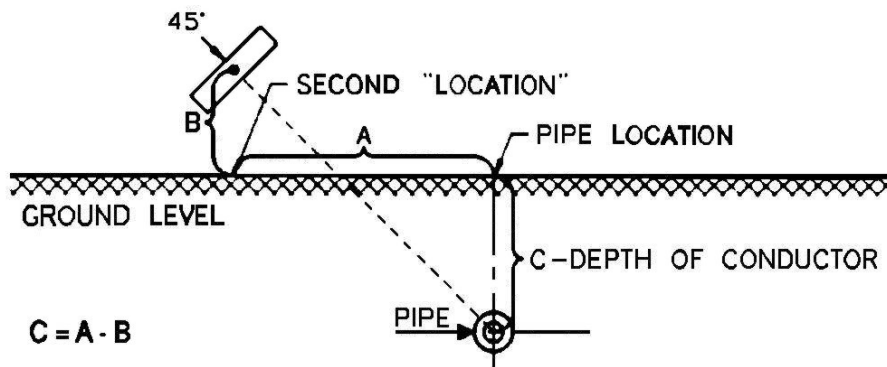

Figure 4-5: Estimating the Depth of a Conductor
- 2 Then, still in the same mode of operation (NULL), tilt the Receiver to 45 degrees (aligning the bubble), and move off to the side of the conductor. See Figure 4-5.
3 When you "locate" the conductor a second time, with the Receiver at a 45 degree angle, mark the spot on the ground. The distance between this second spot and the true location of the conductor (A), less the distance between the center of the Receiver and the ground (B), is equal to the depth of the conductor (C). See Figure 4-5.